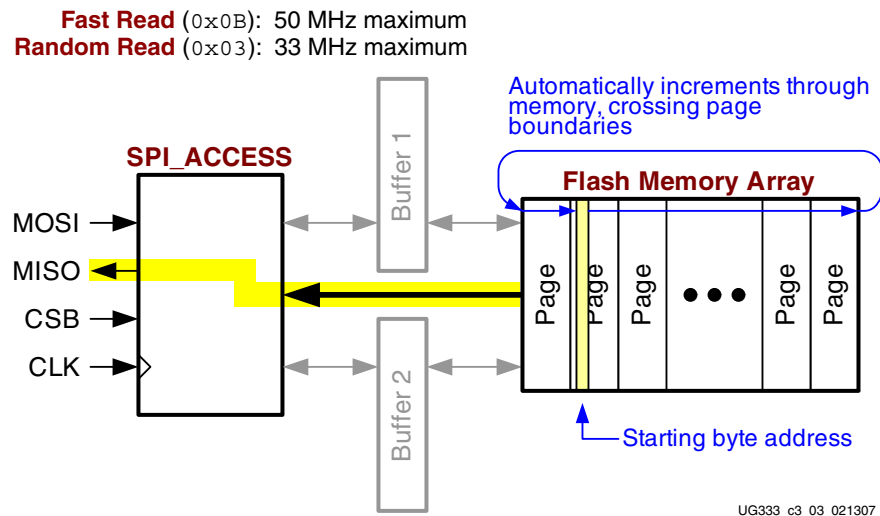

Figure 3-1: Fast Read and Random Read Commands
The Fast Read command sequentially reads a continuous stream of data directly from Flash memory bypassing the SRAM page buffers, as shown in Figure 3-1. The command specifies an initial starting byte address in the ISF memory. The ISF memory incorporates an internal address pointer that automatically increments on every clock cycle, allowing one continuous read operation without requiring additional address sequences.
- ◆ The starting byte location can be anywhere in the ISF memory array, located on any page, as shown in Figure 3-1.
- ◆ While CSB is Low, new data appears on the MISO output on every subsequent falling CLK edge. The ISF memory automatically increments the implied address counter through contiguous memory locations, as highlighted in Figure 3-1, regardless of the address mode.
Upon reaching the end of a memory page, the ISF memory continues reading at the beginning of the next page, as shown in Figure 3-1. There is no added delay when crossing a page boundary. After reading the last bit in the memory array, the ISF continues reading but returns to the beginning of the first page of memory. Again, there is no added delay when wrapping around from the end of the array to the beginning of the array. A Low-to-High transition on CSB terminates the read operation and the MISO output pin returns High. See “In-System Flash Change,” page 14 for special wrapping considerations for the XC3S50AN.
The Random Read command sequentially reads a continuous stream of data directly from Flash memory bypassing the SRAM page buffers, as shown in Figure 3-1. The command specifies an initial starting byte address in the ISF memory. The ISF memory incorporates
- ♦ The starting byte location can be anywhere in the ISF memory array, located on any page, as shown in Figure 3-1.
- ♦ While CSB is Low, new data appears on the MISO output on every subsequent falling CLK edge. The ISF memory automatically increments the implied address counter through contiguous memory locations, as highlighted in Figure 3-1, regardless of the address mode.
Upon reaching the end of a memory page, the ISF memory continues reading at the beginning of the next page, as shown in Figure 3-1. There is no added delay when crossing a page boundary. After reading the last bit in the memory array, the ISF continues reading but returns to the beginning of the first page of memory. Again, there is no added delay when wrapping around from the end of the array to the beginning of the array. A Low-to-High transition on CSB terminates the read operation and the MISO output pin returns High.